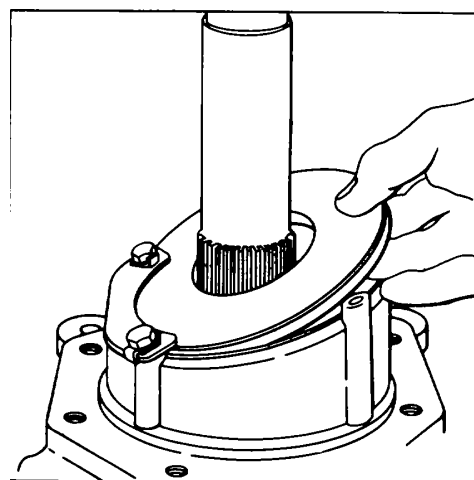

Figure 203.
11. Lift out wear plate (23). See Fig. 203.